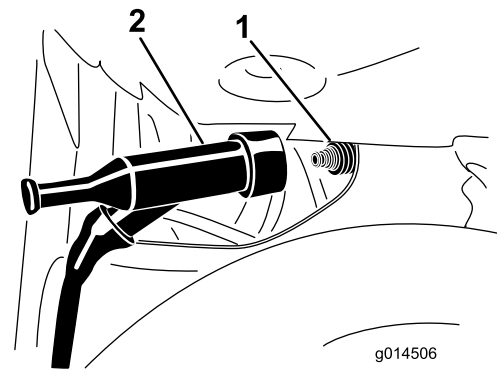

Figure 47
3. Pull the spark-plug wire off the terminal of the spark plug (Figure 47).
4. Push the spark-plug wire onto the terminal of the spark plug (Figure 47).